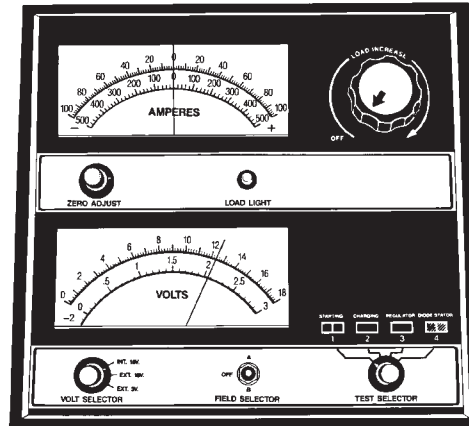

Fig. 5 Testing Open-Circuit Voltage - Typical
(1) Before measuring the open-circuit voltage, the surface charge must be removed from the battery. Turn on the head lamps for fifteen seconds, then allow up to five minutes for the battery voltage to stabilize.
(2) Disconnect and isolate both battery cables, negative cable first.
(3) Using a voltmeter connected to the battery posts (see the instructions provided by the manufacturer of the voltmeter), measure the open-circuit voltage (Fig. 5).